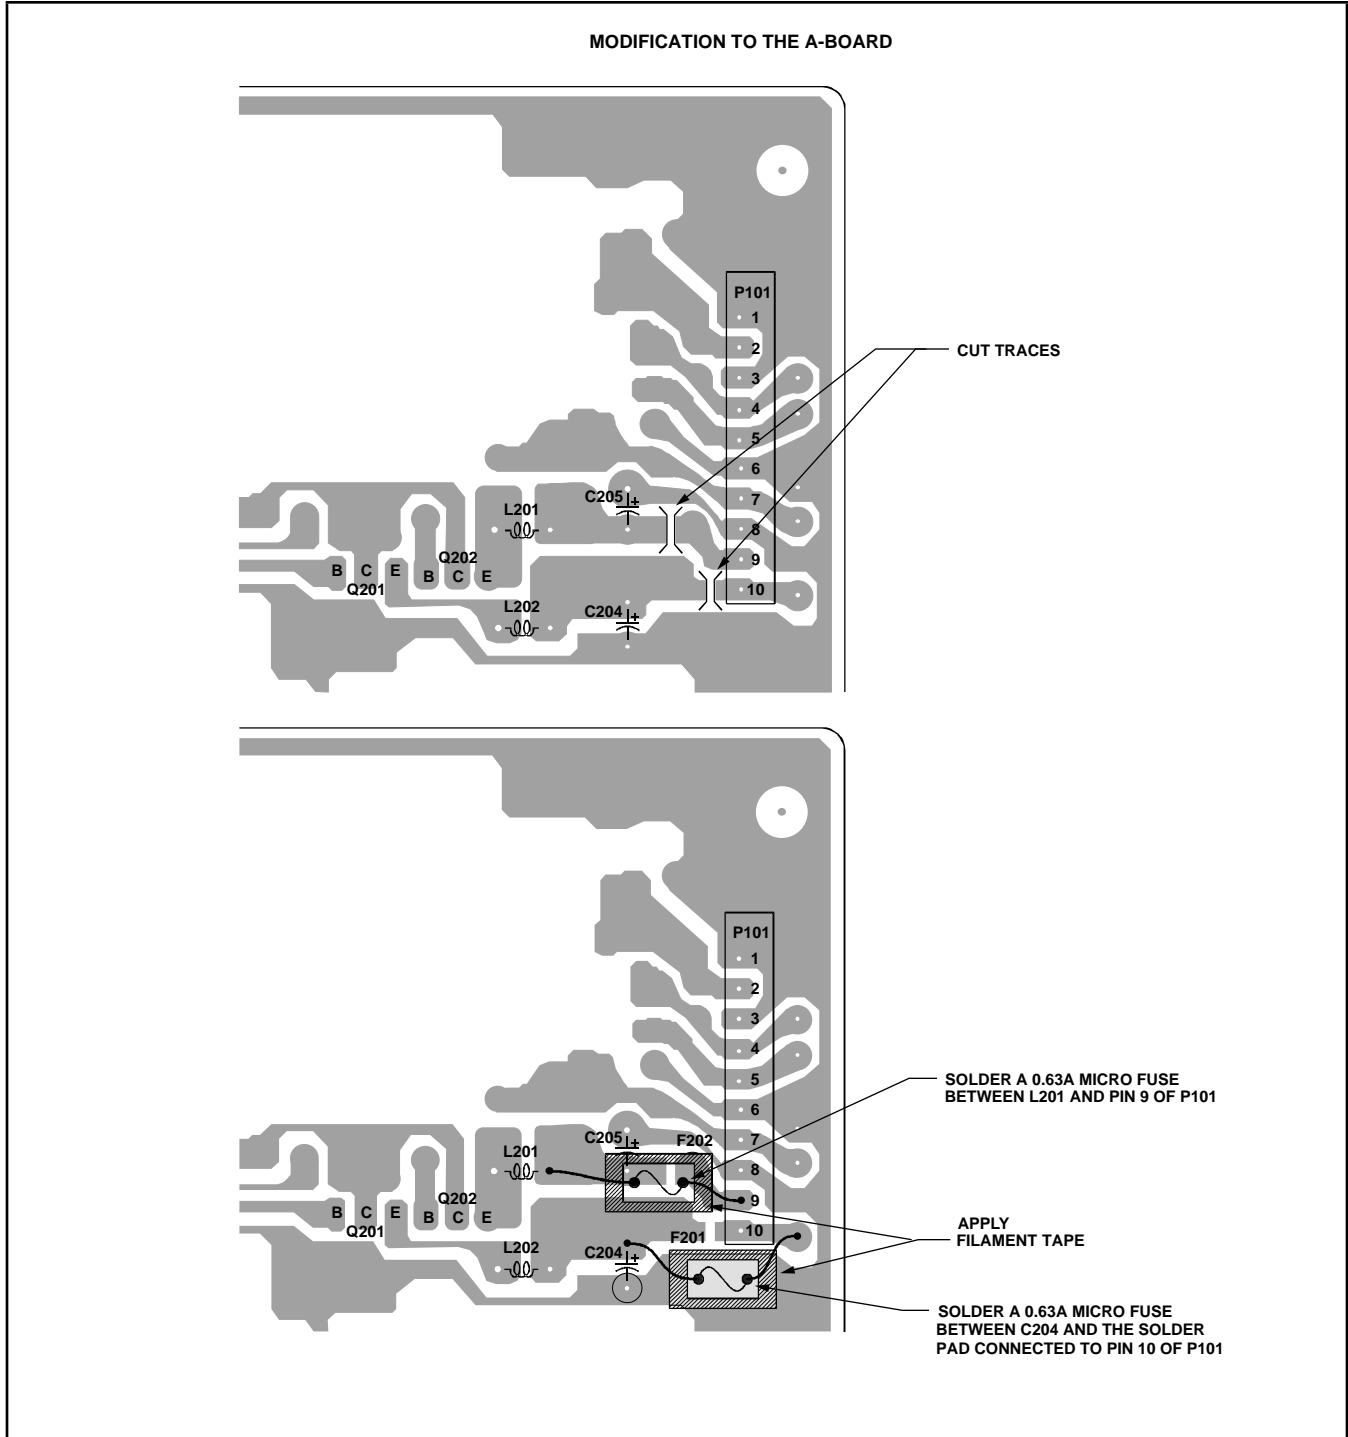

Figure 2
2. Apply filament tape to the board as shown in Figure 2 so that fuses F201 and F202 are mounted on top of the tape.